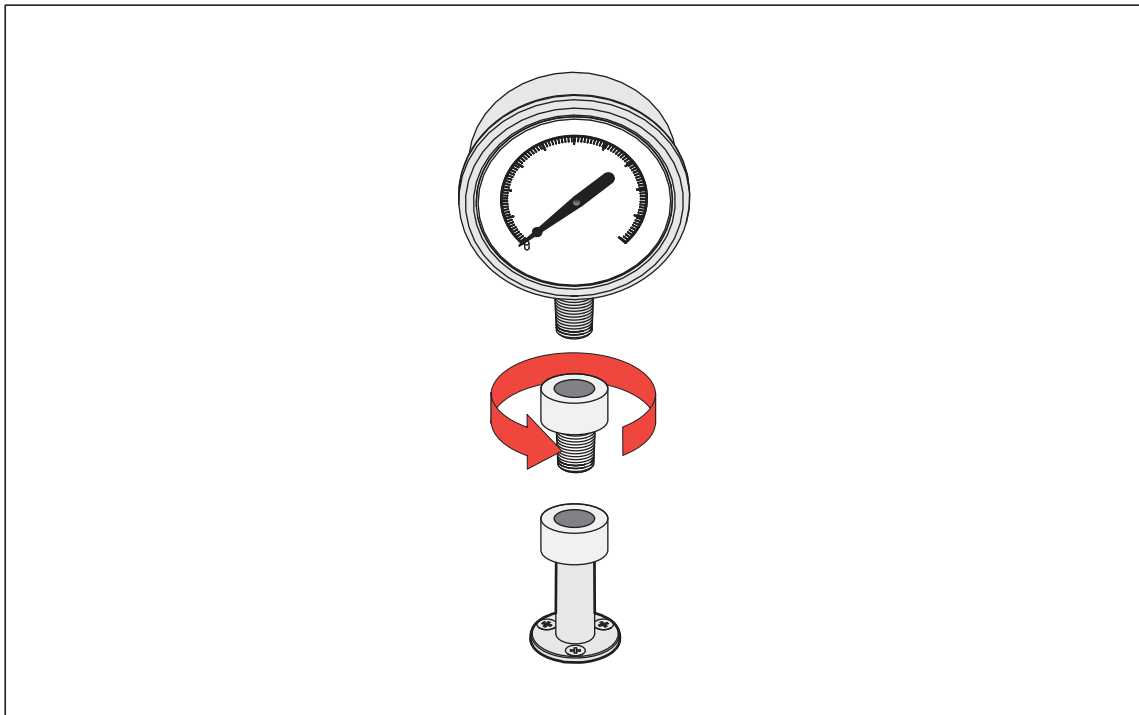

Figure 6. Screw on Gauge Adapter
1. Screw the appropriate gauge adapter fully on to the UUT, see Figure 6.